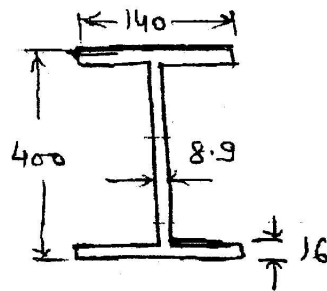

Fig. 4
- 5 (a) Determine the plastic and elastic section moduli, and the shape factor of the I section shown in fig.4.